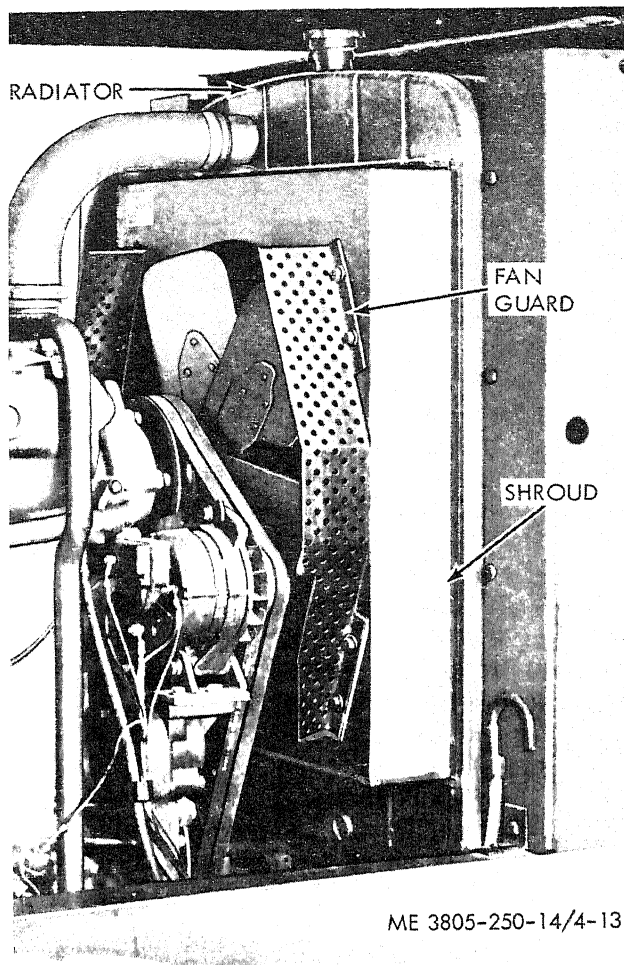

Figure 4-13. Shroud, removal and installation.
b. **Replacement.** Remove the side engine access panel and remove the hood (para 4-51). Remove four bolts and lockwashers securing each side of the shroud (fig. 4-13) to the radiator and remove from the loader. Install the shroud by reversing the removal procedure.